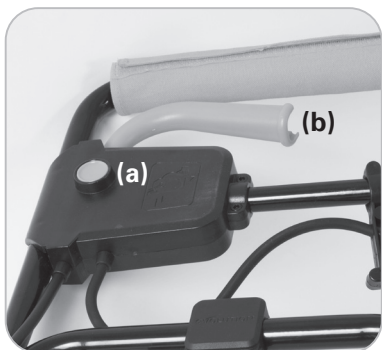

Fig. 12
- Press the safety lock button (a) and pull the switch (b) lever to start the machine. (**Fig. 12**)